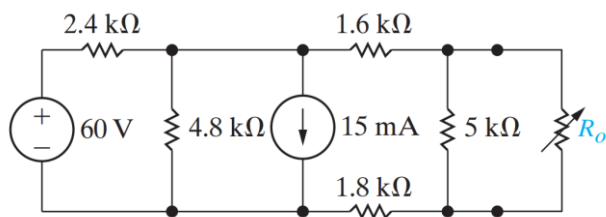

Fig 4
4. [6%] Find percentage of the total power developed in the circuit is delivered to R_o when R_o is set for maximum power transfer in Fig 4?
- 2) Extract all the resistors in both metal layer M1 and metal layer M2 of the small example circuit shown in Figure 4, by analyzing the SPICE code in Section VI of [1].